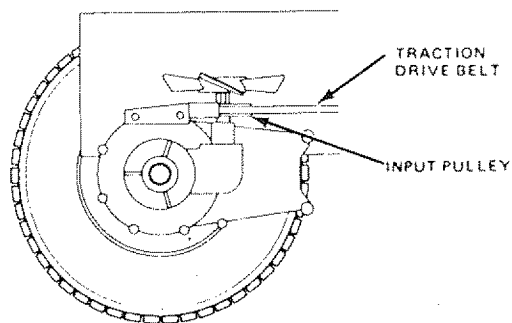

FIGURE 34
- Place top side of belt between blades of fan and rotate fan counterclockwise (↺) (Fig. 34). Remove belt from input pulley (Fig. 34).